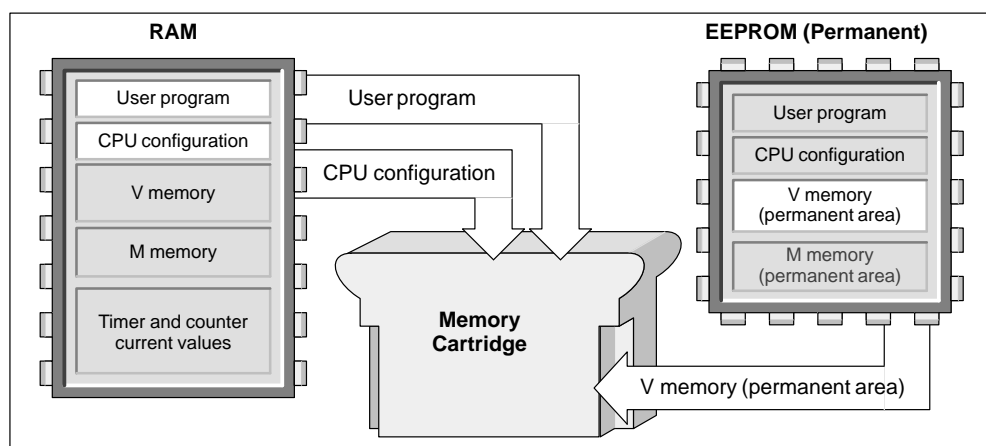

Figure 7-20 Copying the CPU Memory to the Memory Cartridge
2. Use the menu command **CPU ► Program Memory Cartridge** to copy the program to the memory cartridge. Figure 7-20 shows the elements of the CPU memory that are stored on the memory cartridge.